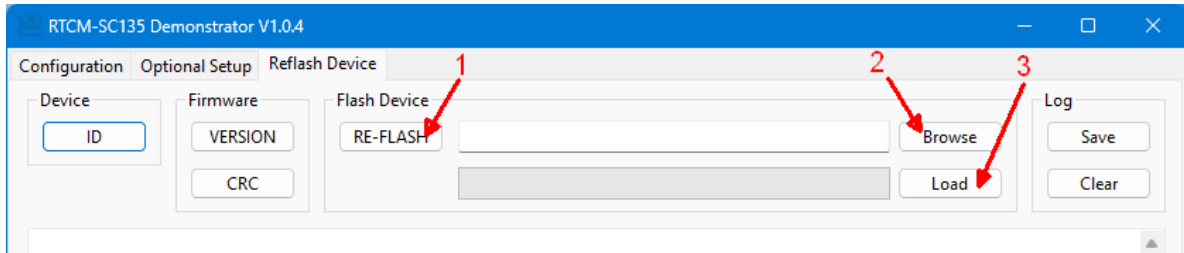

Figure 9 RE-FLASH Sequence
Pressing this button will cause the DE9941A to restart and enter bootloader mode. When in bootloader mode, a red led will blink on and off. A new firmware file can now be selected and uploaded into flash memory. NOTE: The RE-FLASH sequence must be (1) click the RE-FLASH button, (2) browse to select the .bin file to be flashed and finally (3) click the Load button, as shown in Figure 9. Other sequences will make the RE-FLASH operation fail.